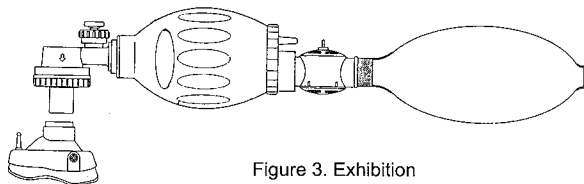

Figure 3. Exhibition
**Exhibition** begins when the patient exerts positive pressure (during passive exhalation) on the patient side of the duckbill valve (F) or when the operator releases pressure from the silicone bag (B). the valve lifts directing the patient's expiratory gases through the expiration ports (G) of the non-rebreathing valve (see figure 3)